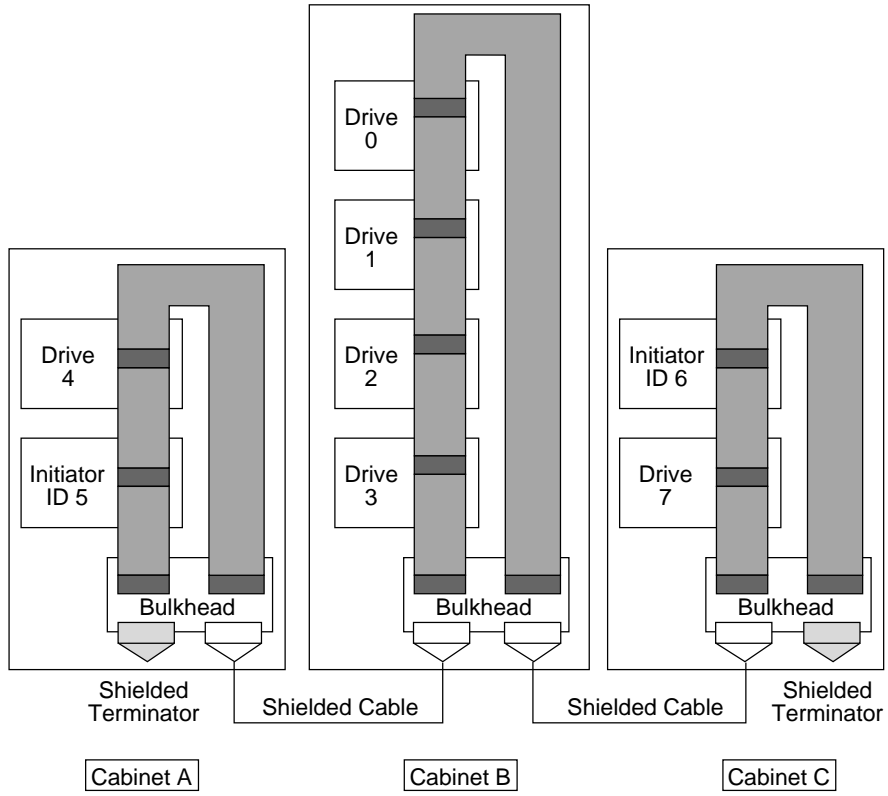

Figure 9. Cabling with three cabinets
- Figure 9 describes how to design cables when the initiators and drives are distributed within three cabinets